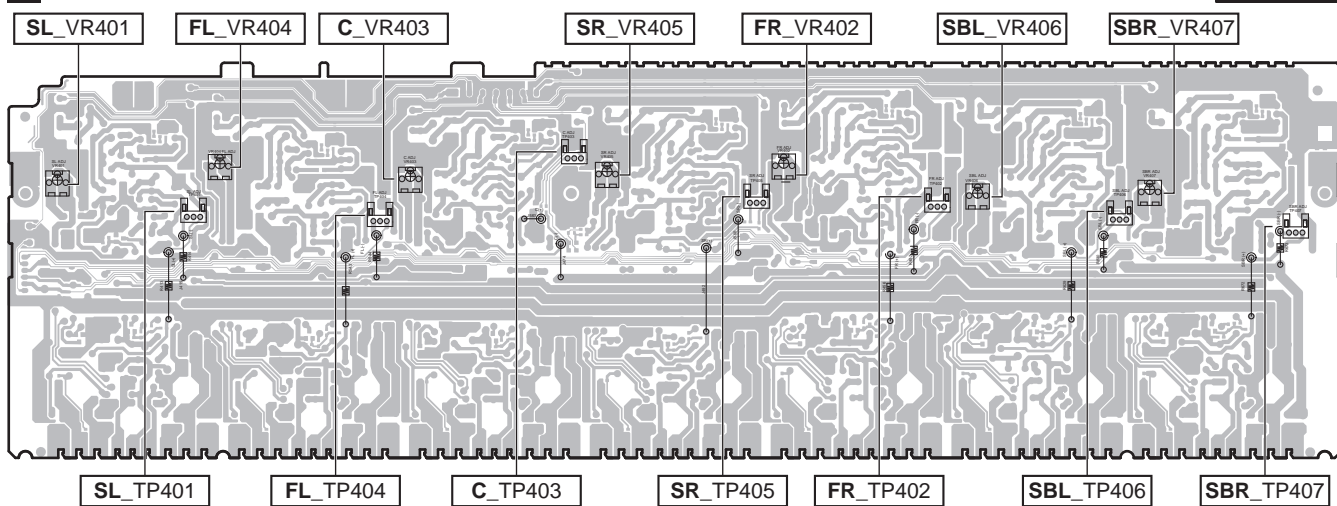

Fig.1
• Adjustment points and measurement points.... see fig.1.